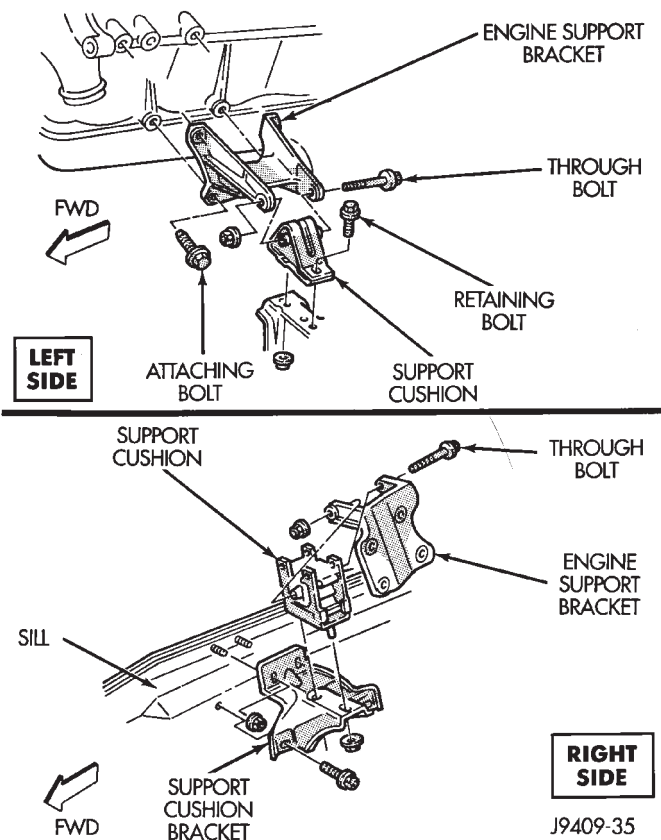
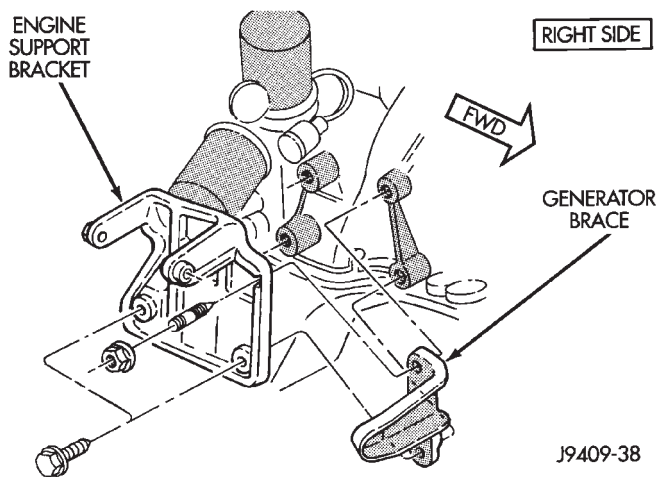

Fig. 6 Front Mounts—XJ Vehicles
Fig. 7 Engine Support Bracket—Right Side
- (1) Disconnect negative cable from battery.
- (2) Raise the vehicle.
- (3) Support the engine.
- (4) Remove through bolt nut (Fig. 6). DO NOT remove the through bolt.
- (5) Remove the retaining bolts/nuts from the support cushions (Fig. 6).
- (6) Remove the through bolt.
- (7) Remove the support cushions.
- (1) If the engine support bracket was removed, position the LEFT bracket (Fig. 6) and the RIGHT bracket with generator brace (Fig. 7) onto the cylinder block. Install the bolts and stud nuts.
- (a) RIGHT SIDE (Fig. 7)—Tighten the bolts to 61 N·m (45 ft. lbs.) torque. Tighten the stud nuts to 46 N·m (34 ft. lbs.) torque.
- (b) LEFT SIDE (Fig. 6)—Tighten the bolts to 61 N·m (45 ft. lbs.) torque.
- (2) If the support cushion brackets were removed, position the brackets onto the lower front sill (Figs. 6 and 8). Install the bolts and stud nuts. Tighten the bolts to 54 N·m (40 ft. lbs.) torque and the stud nuts to 41 N·m (30 ft. lbs.) torque.
- (3) Place the support cushions onto the support cushion brackets (Fig. 6). Tighten the right support cushion nuts to 65 N·m (48 ft. lbs.) torque. Tighten the left support cushion bolt/nut to 41 N·m (30 ft. lbs.) torque.
- (4) Install the through bolt and the retaining nut (Fig. 6). Tighten the through bolt nut to 65 N·m (48 ft. lbs.) torque.
- (5) Remove the engine support.
- (6) Lower the vehicle.
- (7) Connect negative cable to battery.